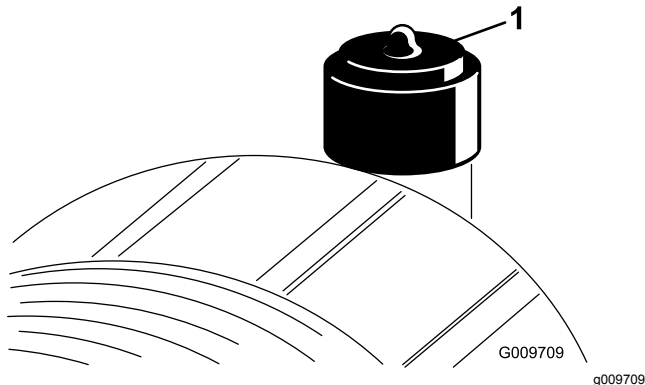

Figure 28
Service the air cleaner filter only when the service indicator (Figure 28) requires it. Changing the air filter before it is necessary only increases the chance of dirt entering the engine when the filter is removed.
6. Reset the indicator (Figure 28) if it shows red.